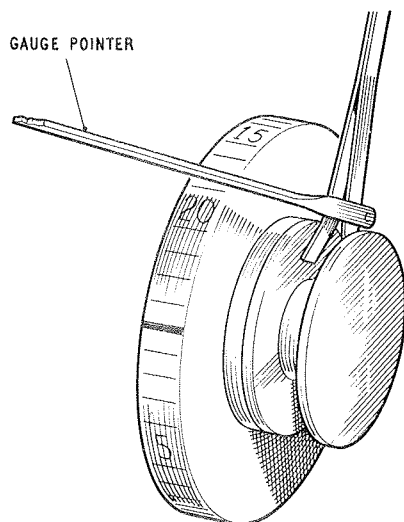

FIG. 12
7.1 Non-self-feed Type The tension of each spring on its collector ring should be 40 ± 20 gm (test) 40 ± 15 gm (readjust), measured as near to the tip as possible (see Fig 12).